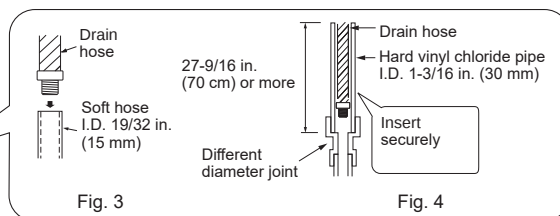

Fig. 3
- 7) Process the end of ground wire (Fig. 3). Connect it to the ground terminal of electrical parts box.
- 8) Process the end of indoor/outdoor unit connecting wire (A) (Fig. 3). Attach it to the terminal block. Be careful not to make mis-wiring. Attach the wire to the terminal block securely so that its core cannot be seen, and no external force affects the connecting section of the terminal block.
- Put the drain cap into the section to which the drain hose is to be attached at the rear of the indoor unit. (Fig. 3)
- If the drain hose provided with the indoor unit is too short, connect it with a field-supplied drain hose (I). (Fig. 3)
- 2) Remove all burrs from the cut section of the pipe, ensuring that precautions are taken to avoid getting metal shavings into the piping. (Fig. 3)